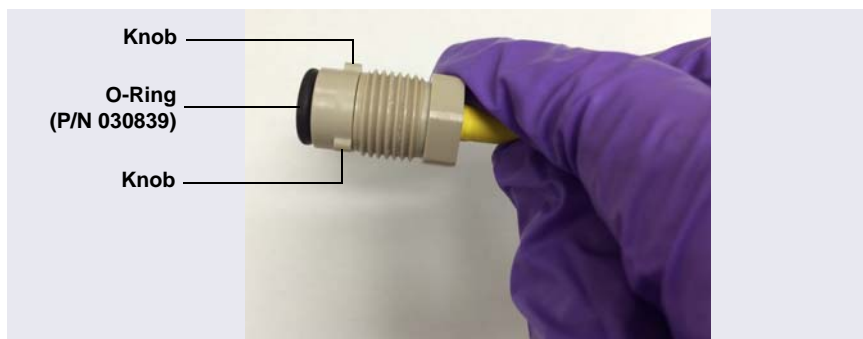

Figure B-14. PdH Reference Electrode with O-Ring
3. Install the O-ring (P/N 030839) on the end of the PdH reference electrode (see Figure B-14).